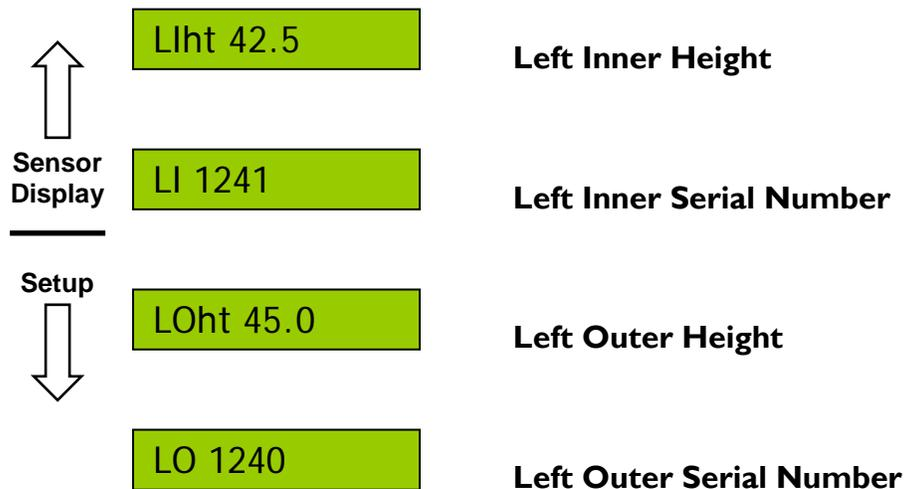

Figure 4I: Sensor Setup Menu (for Left Channel)
3. Navigate to the sensor location you would like to change, for example, "LO" for the left outer sensor. This screen will show the previously installed sensor serial number (if any) as shown in **Figure 4I**.